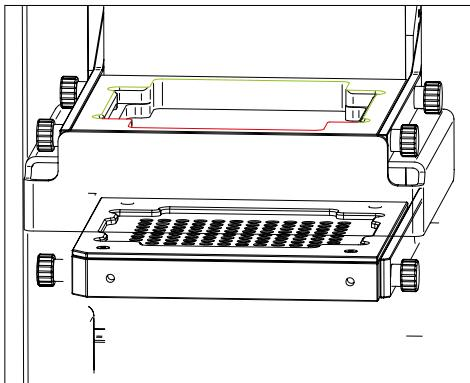
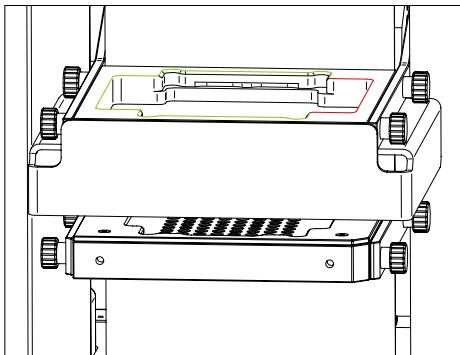

Figure 6a: Landscape orientation.
Figure 6b: Portrait orientation.
- 3.** Align the MultiMACS Magnet with the metal brackets. The holes in the metal brackets must be aligned with the screw threads in the MultiMACS Magnet. The holes can only be aligned with the screw threads if the notched corner of the magnet with the cable outlet is to the left (landscape orientation refer to fig. 6a) or lower right (portrait orientation refer to fig. 6b).